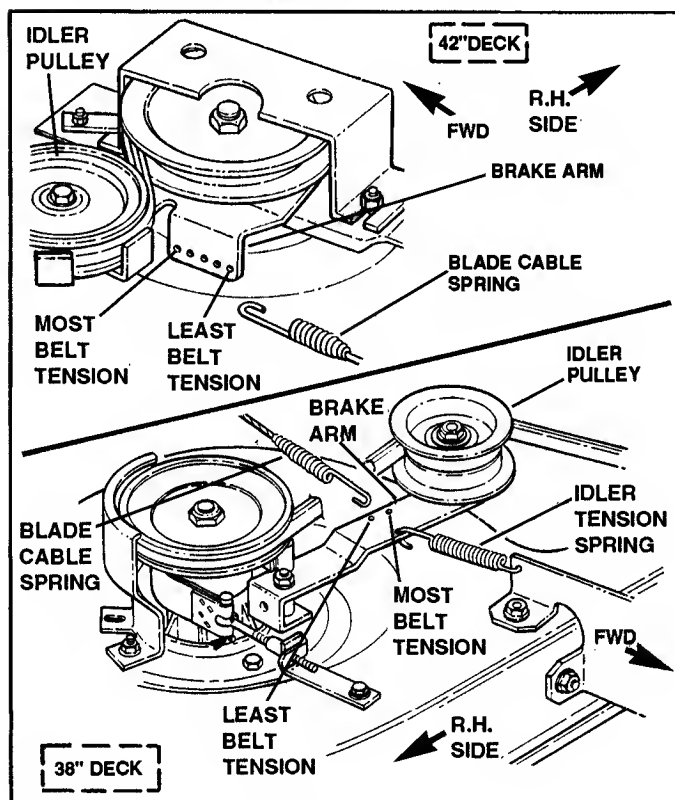

FIGURE 26
3. Remove BLADE CABLE SPRING from hole in BRAKE ARM. Reattach Spring in next hole forward. See Figure 26.